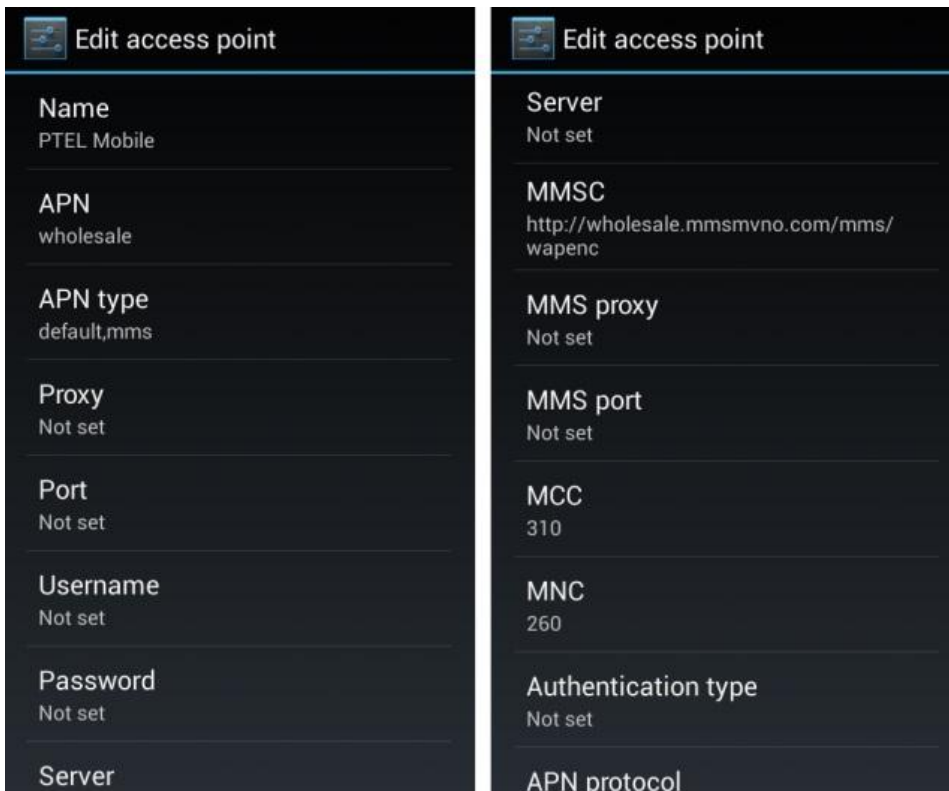

Figure 5
- Enter in all of the required information in each field by clicking into it and then clicking "OK" to save (see Figure 5).